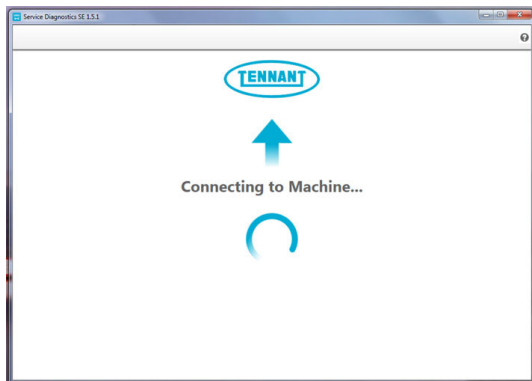

FIG. 11
5. Allow the Service Diagnostics tool to connect to the lithium battery network and the lithium battery service screen to open. (Fig. 11)